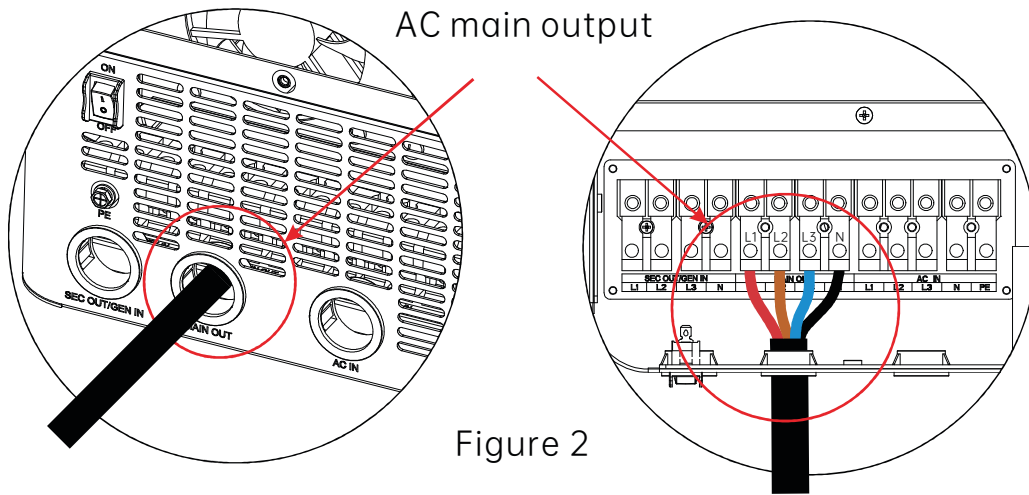

Figure 2
- According to the cable order and terminal position shown in the figure 2 below, correctly connect to the live wire and null line of the AC main output line;